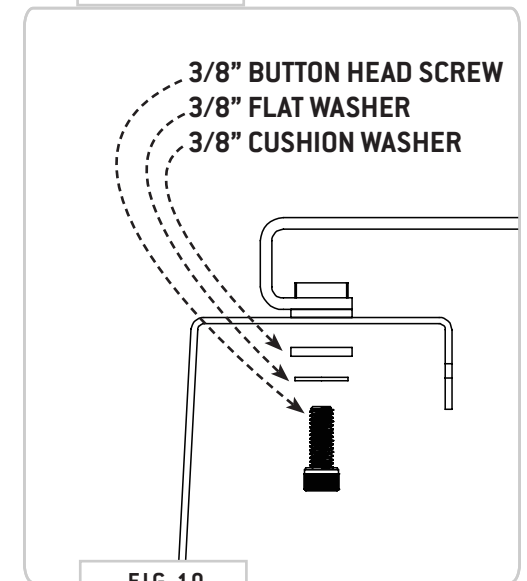

FIG 10
3.1 Once you have the bed rails up and fully mounted, you can simply place the bed panels on and fasten them to the rails using the **3/8-16" Socket Cap Screws, 3/8" Flat Washers and 3/8" Cushioning Washers (FIG 10)**.